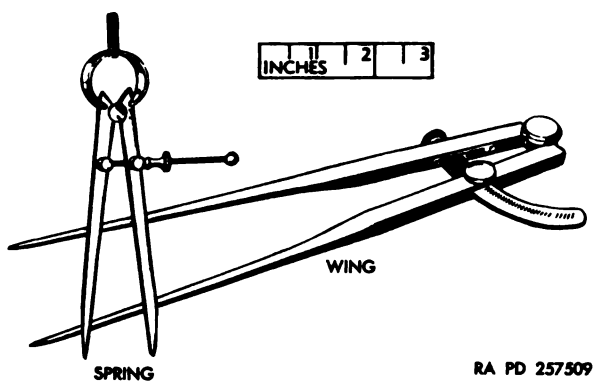

Figure 39. Dividers.
- (1) *Spring divider.* A spring divider (fig. 39) consists of two sharp points at the end of straight legs, held apart by a spring and adjusted by means of a screw and nut. The spring divider is available in sizes from 3 to 10 inches in length.
(2) *Wing divider.* A wing-type divider (fig. 39) has a steel bar that separates